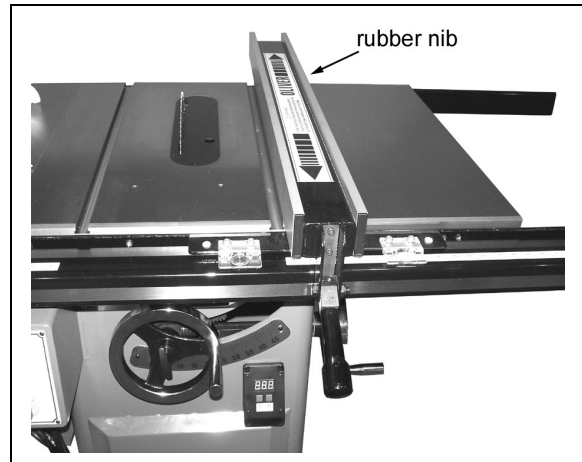

Figure 7
1. Place the fence on the guides as shown in Figure 7. Look for the rubber nib on the underside of the fence as shown and make sure it lines up with the back support rail.
2. Align the fence with the mitre gauge slot as shown in Figure 7 and check to see if the fence is parallel to the slot.